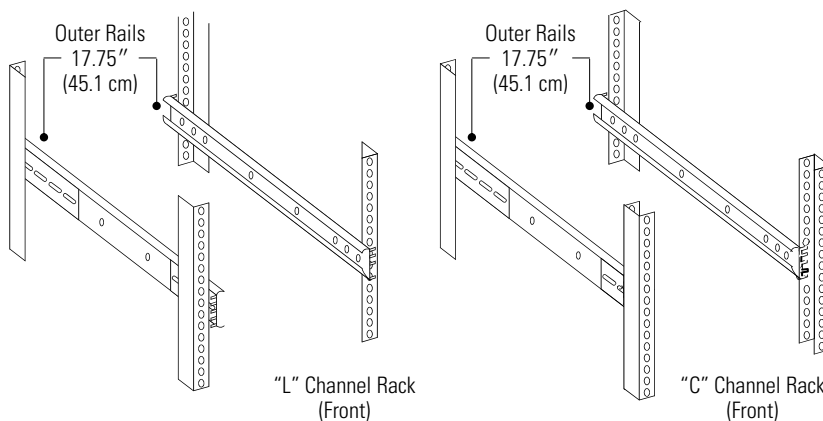

Figure 29. Attaching the Outer Rails to the Rack
5. To ensure the UPS front panel fits flush with the front of the rack, use a rack with front supports that are "L" channels and mount the outer rail on the front of the "L" channel as shown in Figure 29.
NOTE Figure 29 is only an example for mounting position. Different rack manufacturers may vary in design and/or dimensions. Some racks have a "C" channel in the front; the mounting brackets should be attached to the rear of the "C."
7. Attach the outer rails to the rack using appropriately-sized bolts for your rack (not supplied). See Figure 29.